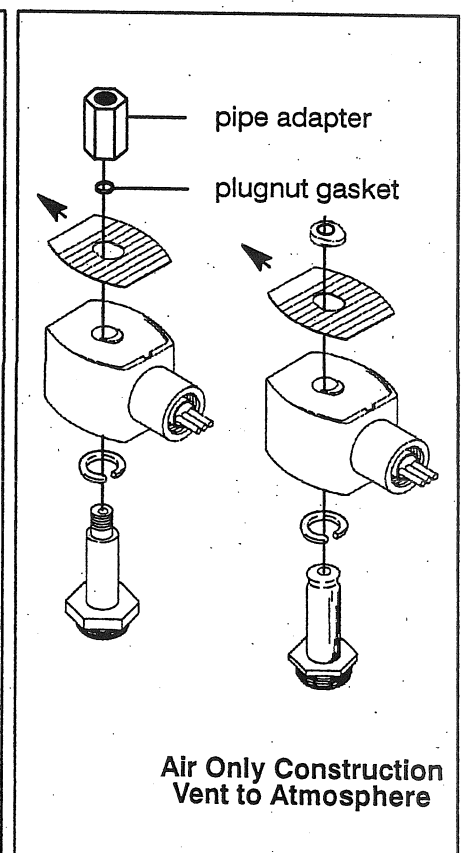

Figure 3. 3-Way Construction
3. Snap off red cap from top of solenoid base sub-assembly. For 3-way construction with pipe adapter (Figure 3), remove pipe adapter, nameplate and solenoid. Omit steps 4 and 5.